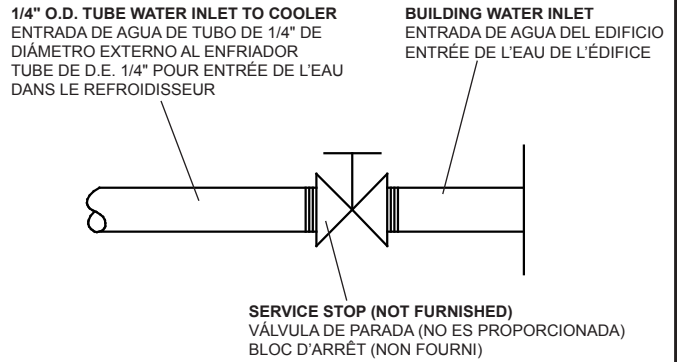

Fig. 3
4. Connect cooler to building supply line with a shut-off valve and install a 1/4" O.D. (6mm) unplated copper tube between the valve and cooler. (See Fig. 3)